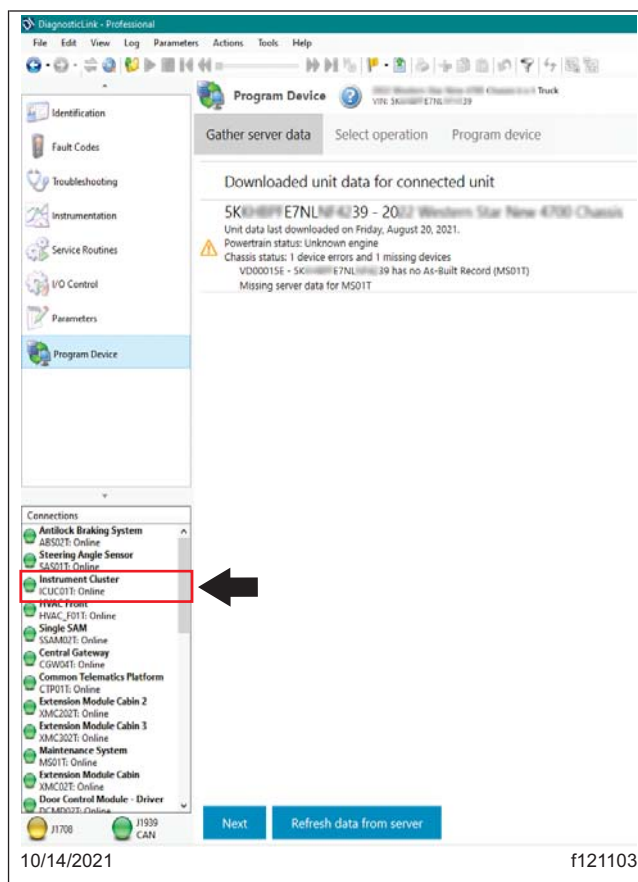

Fig. 2, ICUC01T ECU Connected
5. Connect the vehicle to DiagnosticLink. Ensure the instrument Cluster (ICUC01T) rollcalls, and is visible in the 'Connections' window. See Fig. 2.